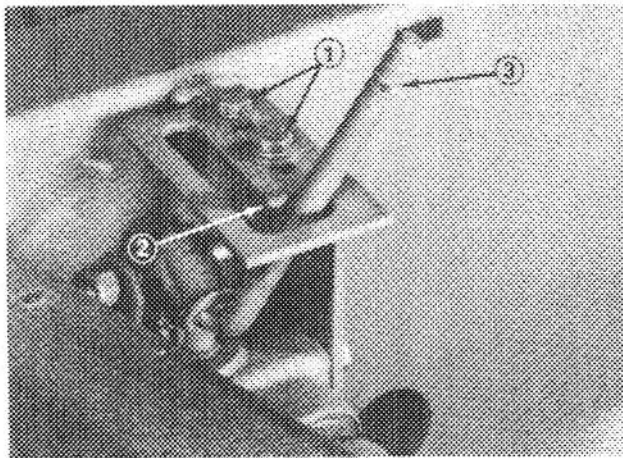

Figure 63
3. Loosen two capscrews on top of the lift lever latch (Fig. 63). Place lever on rounded tip of latch (Fig. 63), and slide latch w/lever forward until stopping resistance is felt. Then tighten capscrews to lock the latch in place. Check for free operation of the lift lever by moving lever from RAISE or TRANSPORT to FLOAT position. Lift lever should just clear rounded position of latch as lever is moved into FLOAT position.